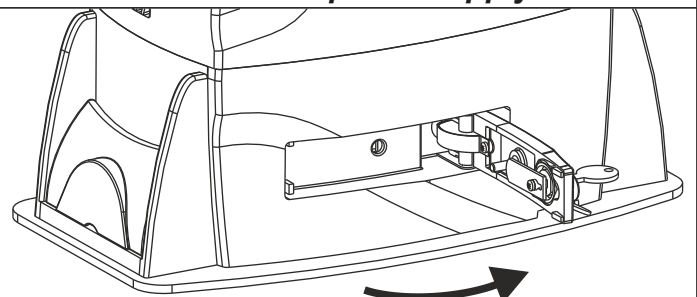

Fig. 29
- Pull the release lever until it stops, about 90° approximately (Fig. 29)